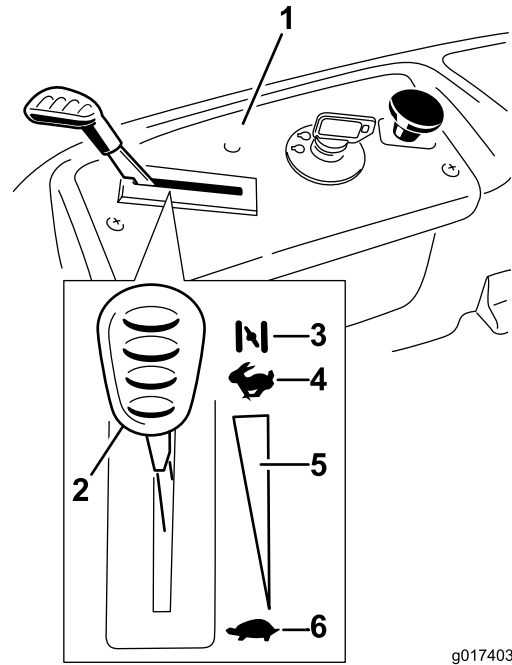

Figure 13
3. Move the throttle lever to Choke before starting a cold engine (Figure 13).
- After the engine starts, move the throttle lever to Fast (Figure 13).